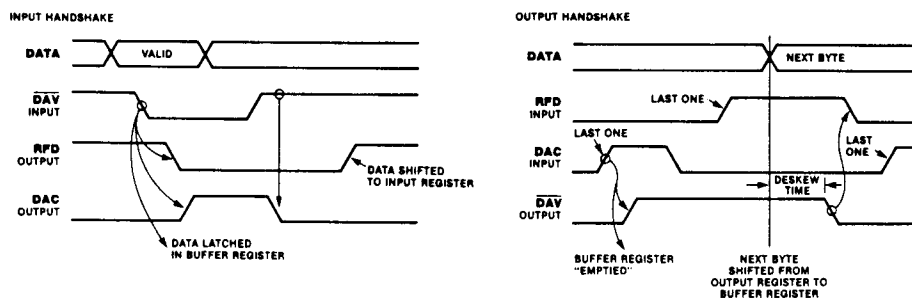

Figure 8. 3-Wire Handshake
**3-Wire Handshake.** The 3-Wire Handshake is designed for the situation in which one output port is communicating with many input ports simultaneously. It is essentially the same as the Interlocked Handshake, except that two signals are used to indicate if an input port is ready for new data or if it has accepted the present data. In the 3-Wire Handshake (Figure 8), the rising edge of one status line indicates that the port is ready for data, and the rising edge of another status line indicates that the data has been accepted. With the 3-Wire Handshake, the output lines of many input ports can be bussed together with open-drain drivers; the output port knows when all the ports have accepted the data and are ready. This is the